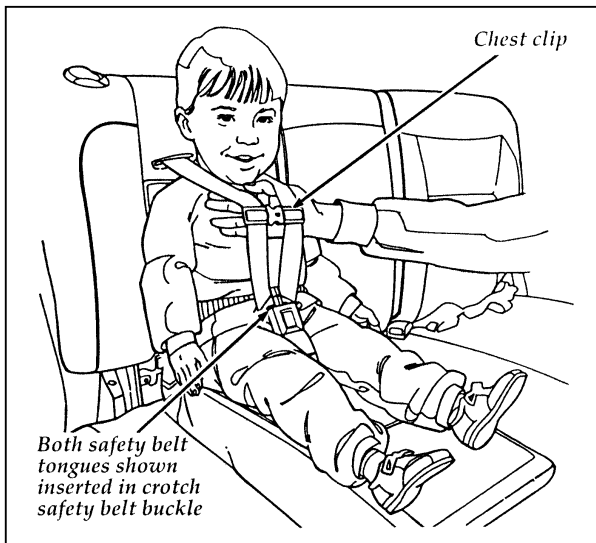

Figure 8: Checking for securely latched buckle and locked retractor
7. Double check that the retractor is in the automatic locking mode. Try to pull more belt out of the retractor. If you cannot, the belt is in the automatic locking mode, Figure 8.
9. Pull the shoulder belts out to ensure that the crotch safety belt buckle is securely fastened and the retractor is locked. Refer to Figure 8.